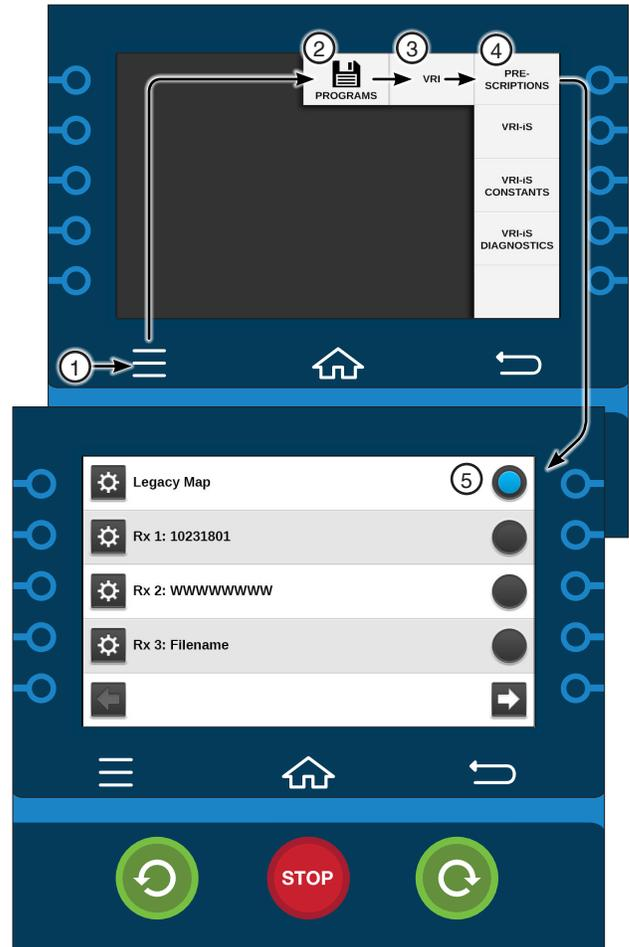

Figure 173-1 1. Menu
1. Push **Menu**, **Programs**, **VRI** and **Prescriptions** to load the Prescriptions screen. Refer to Figure 173-1.